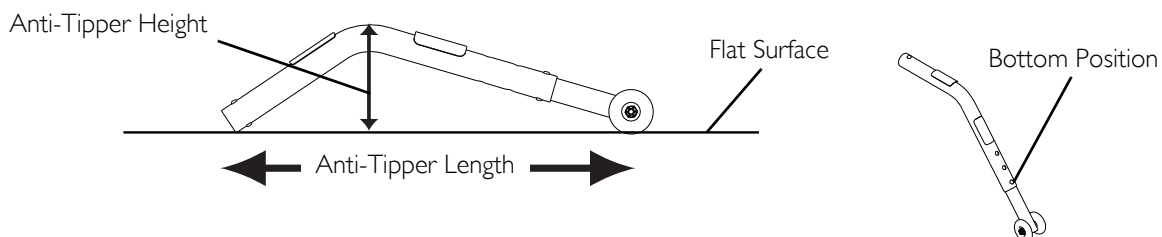
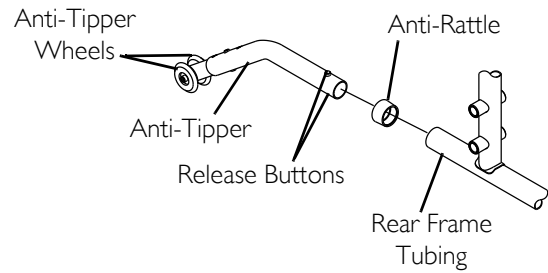

FIGURE 9.1 Installing/Adjusting Anti-tippers - Anti-Tipper Length
FIGURE 9.2 Installing Anti-Tippers
NOTE: For this procedure, refer to FIGURE 9.1 on page 34 and FIGURE 9.2 on page 35.
NOTE: To ensure the correct model anti-tipper is used refer to FIGURE 9.1. Measurements for anti-tippers are approximate and are taken with extension tube in bottom hole position.
1. Press the release buttons and insert the anti-tippers with the anti-tipper wheels pointing toward the ground/floor into the wheelchair frame tubing as shown in FIGURE 9.2.